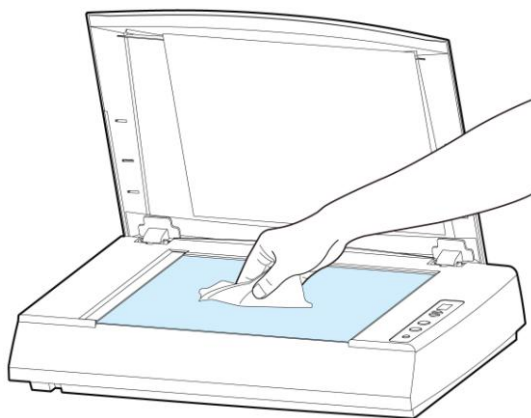

Figure 6-1 The cleaning area
2. Open the document cover as shown in Figure 6-1. Wipe the document glass.